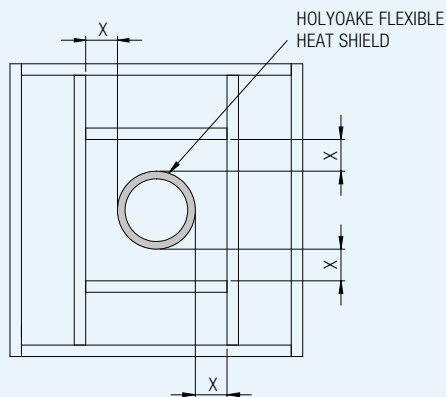

FIGURE 1: NO ADDITIONAL LINING REQUIRED
2. Find the corresponding minimum distance(s) 'X' (depicted below in figure 1) between the dampers heat shield and the surrounding joists/ studs and noggings.
\*Note that the remaining joist and noggings conform with figure 1 and so do not require an additional fire rated plasterboard lining.